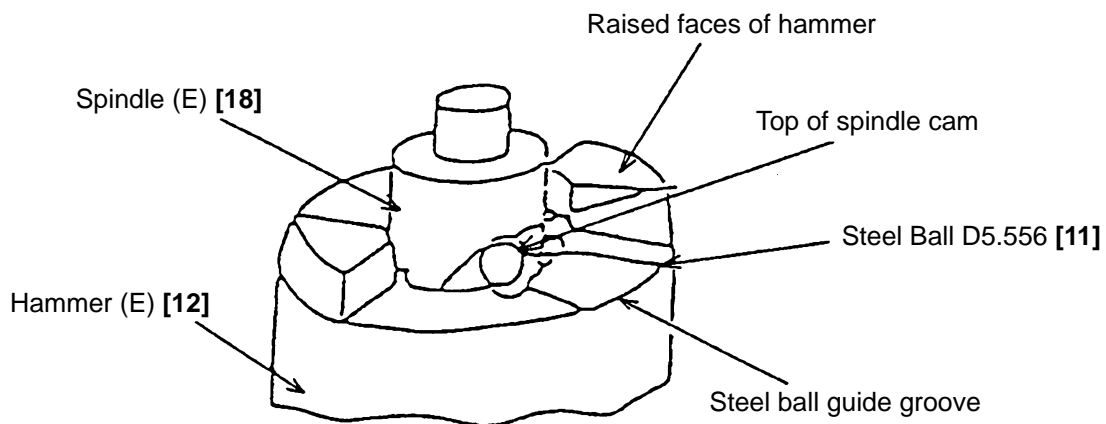
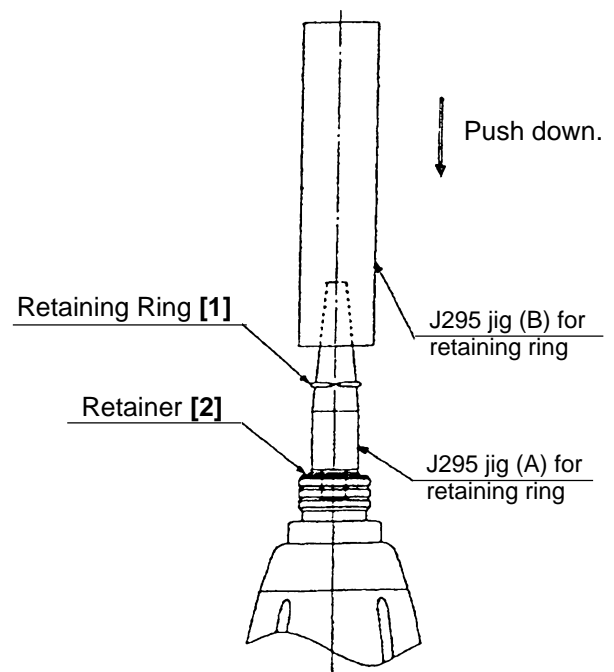

Fig. 7
Fig. 15
- (3) Mounting the mechanical parts
- Mount Hammer (E) [12] containing the twenty-eight Steel Balls D3.175 [13], Washer (J) [14], Hammer Spring (C) [15] and Washer (S) [16] to Spindle (E) [18].
- Align the top of the cam groove on Spindle (E) [18] with the steel ball guide groove on Hammer (E) [12] as illustrated in Fig. 7. Press down either of the raised faces of Hammer (E) [12] with a hand press to compress Hammer Spring (C) [15] until the end surface of Hammer (E) [12] contacts Spindle (E) [18].
- Mount the hammer assembly onto the J-297 base for washer (S). With a hand press, push down the top of Spindle (E) [18] to compress Hammer Spring (C) [15]. On this condition, mount the Stopper [17] onto the spindle shaft and then release the hand press.
- (4) Mounting the hammer assembly to the housing
- Raise the housing assembled in step (2) and mount the hammer assembly to the housing being careful of proper engagement between the Idle Gear Set (2 pcs.) [19] of the hammer assembly (check that Washer (E) [22] is mounted on Spindle (E) [18]) and Ring Gear (C) [21]. After mounting, check that the hammer assembly turns. If the hammer assembly does not turn, the gears engage improperly.
- (5) Mounting the hammer case
- Put Anvil (C) [10] on Spindle (E) [18]. Cover it with the Hammer Case [8] and secure with the four Tapping Screws (W/Sp. Washer) D4 x 25 (Black) [7].
(6) Mounting Guide Sleeve [4]
Insert the two Steel Balls D3.97 [9] into the hole of Anvil (C) [10]. Mount the Guide Sleeve [4], Guide Spring [3] and Retainer [2] in sequence. Mount the Retaining Ring [1] into the groove of anvil using J295 jigs (A) and (B) for retaining ring as illustrated in Fig. 15.